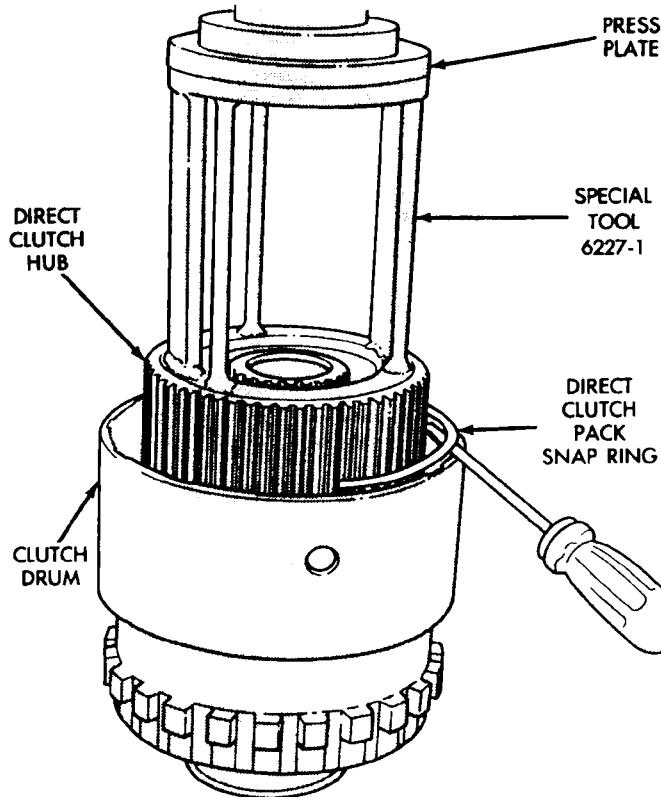

Fig. 22 Direct Clutch Pack Snap Ring Removal
- (7) Mount geartrain in shop press
- (8) Position Compressor Tool 6227-1 on clutch hub (Fig. 22). Support output shaft flange with steel press plates as shown and center assembly under press ram.
- (9) Apply press pressure slowly. Compress hub and spring far enough to expose clutch hub retaining ring and relieve spring pressure on clutch pack snap ring (Fig. 22).
- (10) Remove direct clutch pack snap ring first (Fig. 22).